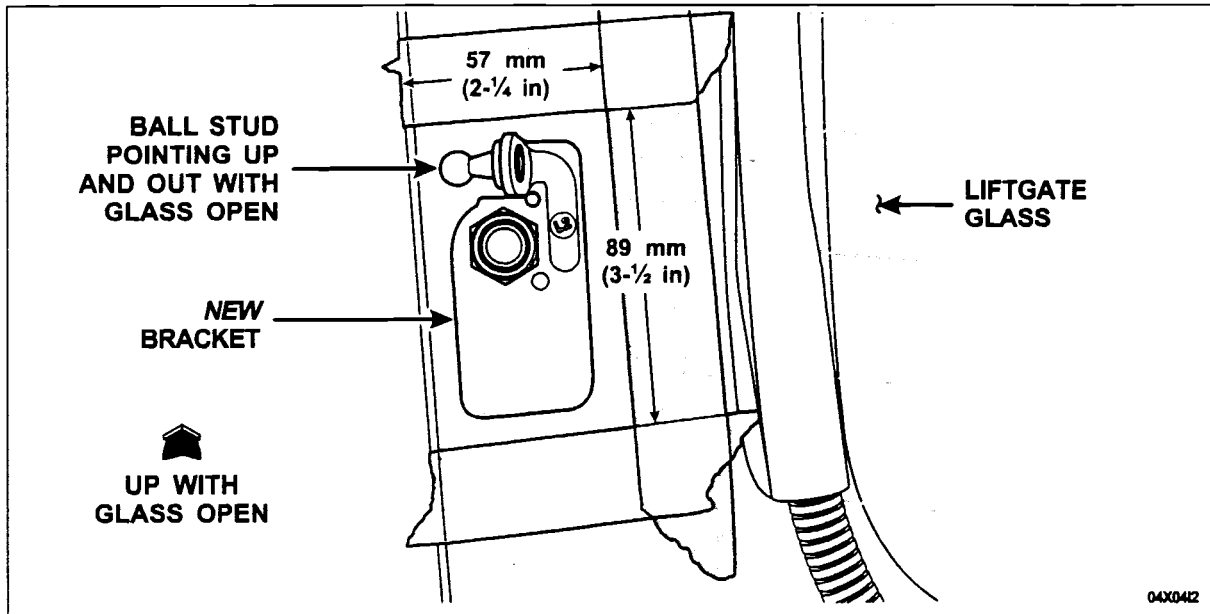

FIGURE 9
3. Hold the **new** bracket in position on the glass with the ball stud pointing UP and OUT (with the liftgate glass open). Mark the area around the bracket using masking tape or vinyl tape. Leave a space approximately 7 mm (1/4 in) between the edge of the bracket and the tape. The taped-off area should be approximately 57-mm (2-1/4 in) wide and 89-mm (3-1/2 in) high. See Figure 9 for proper placement and dimensions. After the tape is applied, remove the bracket. The tape will be used as an alignment guide, therefore, keep the tape in place until completing the final bracket alignment.